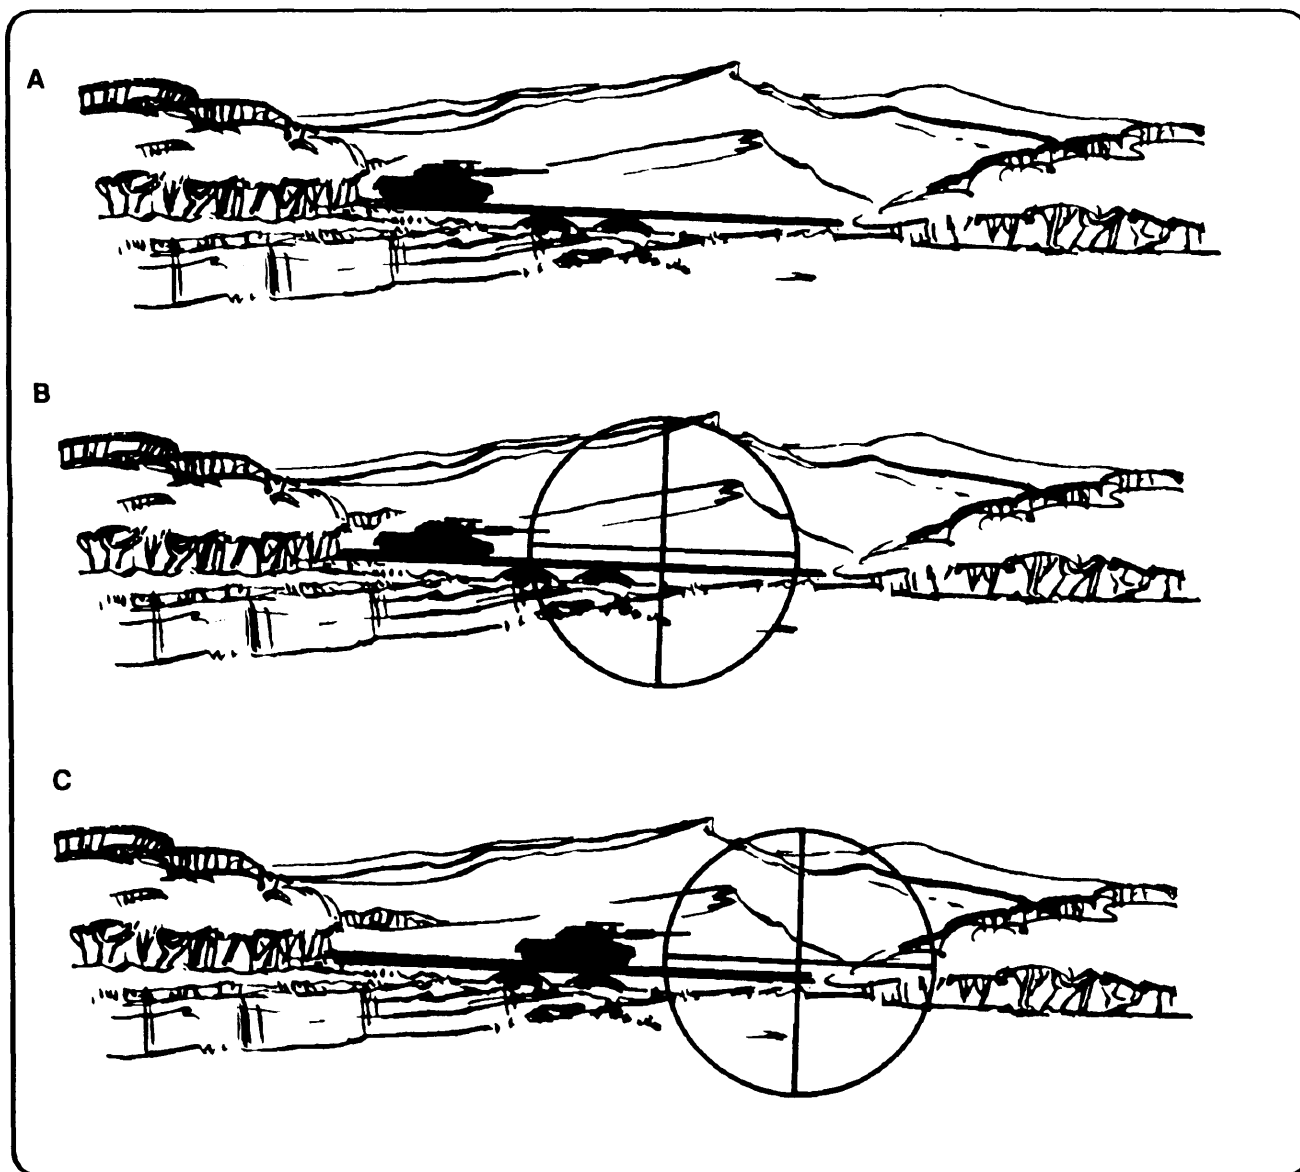

Figure 3-19. Target determination.
this determination. The gunner lines up the tracker sight directly in front of the target. If there are no obstructions or covered areas along the expected path of the target and the target is moving 35 kmph or less, the gunner can successfully launch and destroy it. (See A, Figure 3-19.)
b. The gunner places the cross hairs center of mass and fires – the target will not be able to reach the protection of the hill in time. (See B, Figure 3-19.) If the gunner does fire – the target will reach the protection of the hill before the missile hits. (See C, Figure 3-19.)